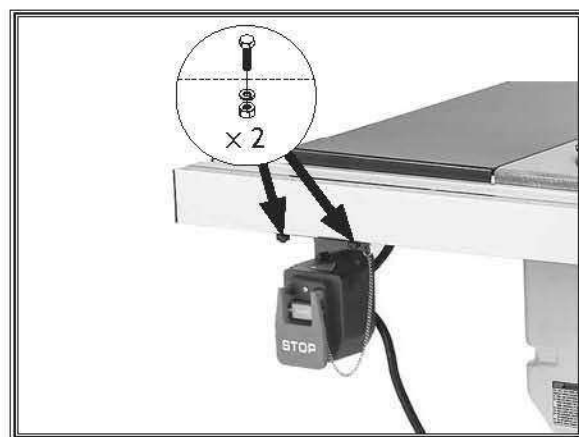

Figure 25. Switch installed.
14. Install switch on hex bolts from **Step 10** using (2) M8-1.25 hex nuts and (2) 8mm lock washers (see **Figure 25**).